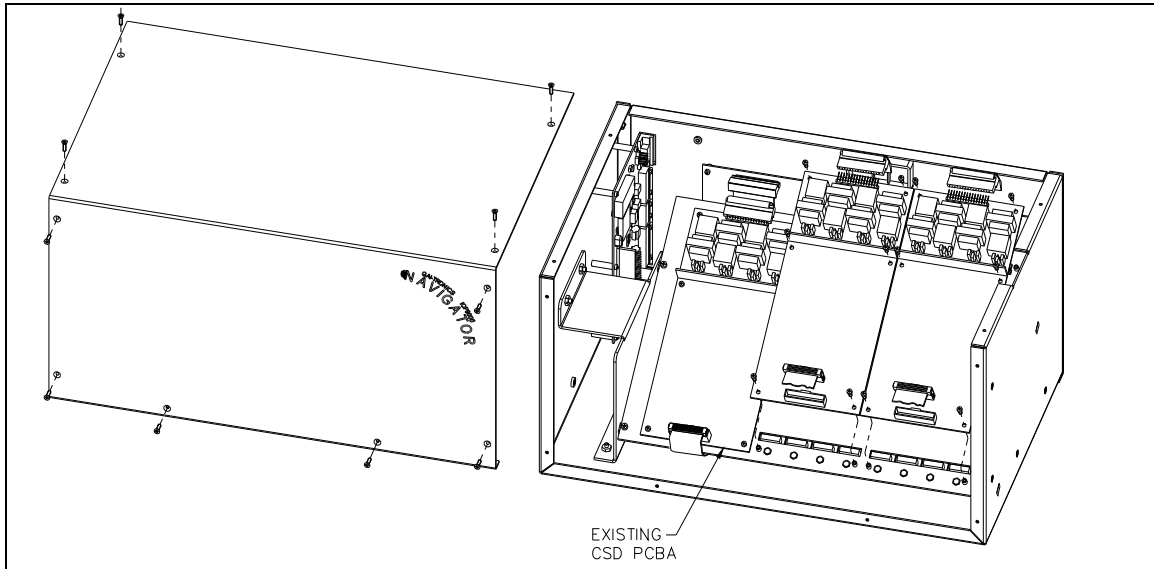

Figure 6.
7. Remove the 10 screws securing the side cover panel and gently lift the cover off. See Figure 6.
8. Mount the new CSD PCBA next to the existing CSD board(s) using the supplied #4-40 screws. Refer to Figure 6.